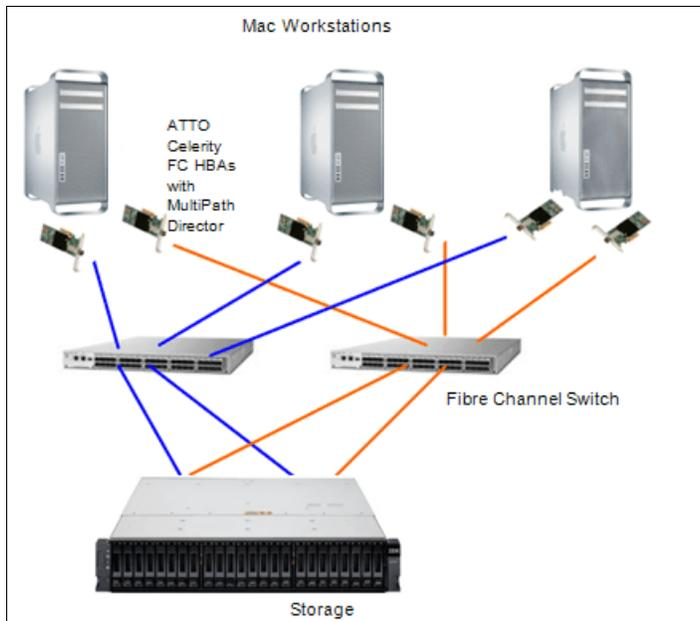

Figure 2-17 MacOS support with redundant SAN fabric
- ▶ Redundant SAN fabric support: This configuration, shown in Figure 2-17, offers redundant paths for failover through dual fabrics and using single port HBA cards in the MacOS host.